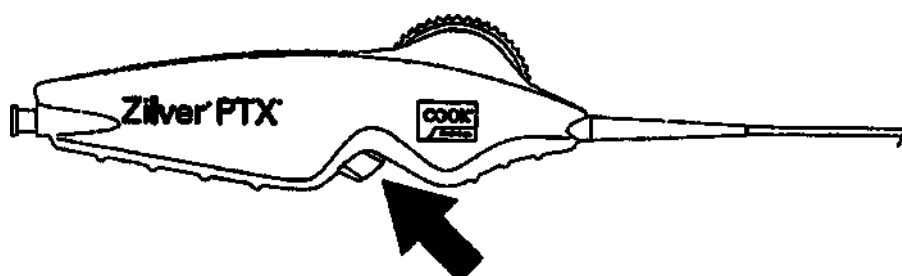

Fig. 6
2. Disengage the device safety lock by gently depressing the red safety button in the direction indicated in Figure 6.